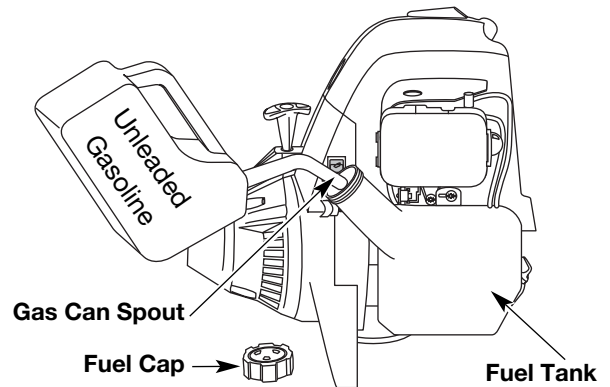

Figure 9
2. Place the gas container's spout into the fill hole on the fuel tank and fill the tank. See Figure 9.
WARNING: Avoid accidental starting. Make sure you are in the starting position when pulling the starter rope (Fig. 9). To avoid serious injury, the operator and unit must be in a stable position while starting.